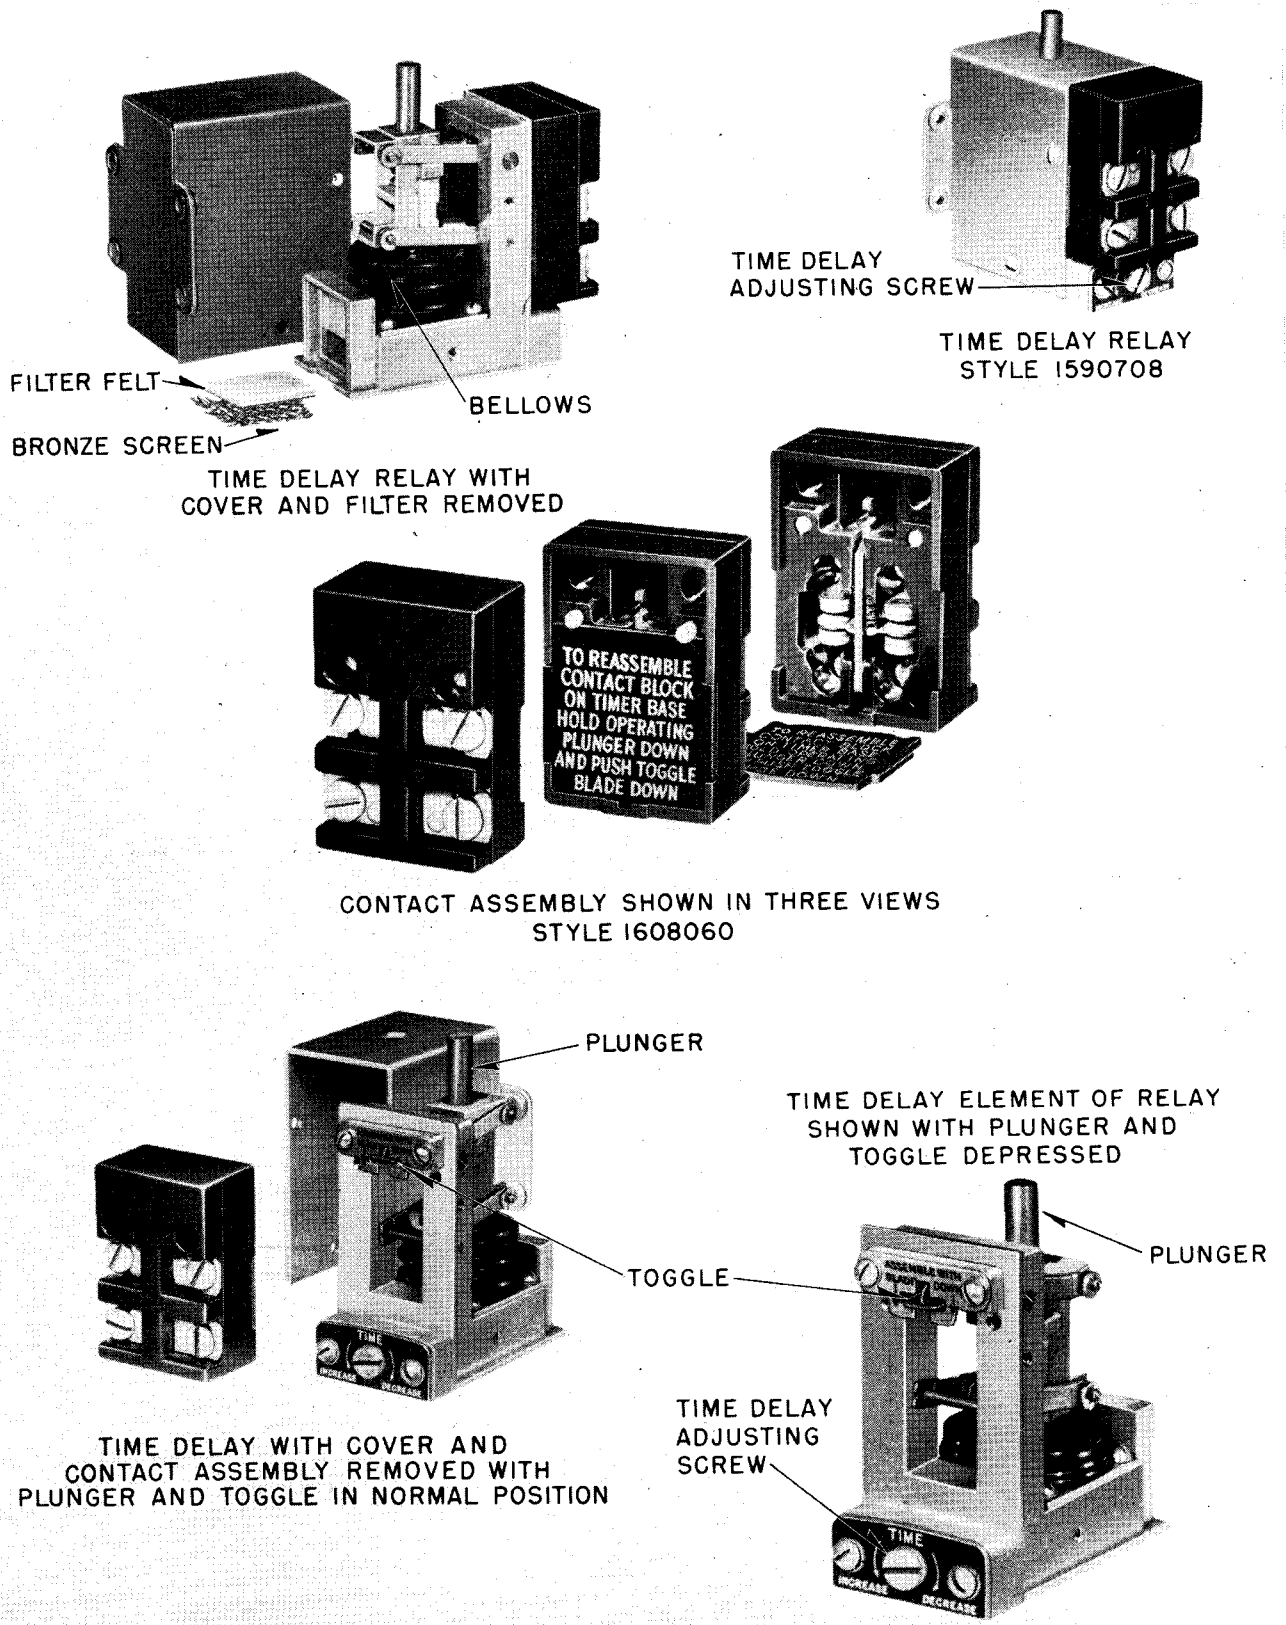

FIG. 4. Various Views of "DynAC Brake" Time Delay Relay and Contact Assembly
The basic mechanism of both types is the "DynAC" time delay relay (Fig. 4). This is a pneumatically controlled device which gives an application of power for braking of exactly the right duration. It has a built-in overtravel feature on the bellows operating plunger to ensure proper operation at all times, without necessity of exacting travel adjustments.
The only major adjustment necessary is on the length of the time delay. The time from the removal of pressure from the plunger until the opening of the contacts of the "DynAC" time delay relay (snapping of the switch) should be approximately one half to one second. Turning the adjusting screw clockwise decreases the time delay, counter-clockwise increases the time delay. An approximate adjustment is made by turning the adjusting screw to the maximum delay setting and then reducing the delay by four full turns of the adjusting screw. See Fig. 4.
The contacts of the time delay relay should be checked for cleanliness and future life at regular maintenance periods. It is recommended that this be done each time the selector contacts of the tap changer are inspected. This inspection may be accomplished by removal of the two mounting screws which fasten the contact assembly to the time delay mechanism. The plunger and toggle must be depressed when the contact assembly is being replaced (Fig. 4).
In extremely dusty locations the time delay mechanism should be removed from its case by the removal of the four screws, two on each side of the case, and the case thoroughly cleaned. The bronze screen should be removed from the recess and the filter felt cleaned with carbon tetrachloride prior to assembly (Fig. 4).
- Time Delay Unit.....S# 1590 708 (Fig. 4)
- Contact Assembly.....S# 1608 060 (Fig. 4)